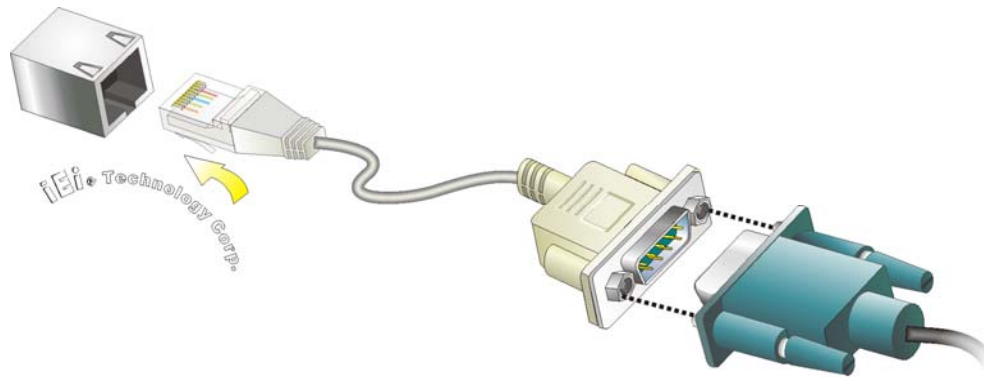

Figure 4-18: RJ-45 Serial Port Connector
Step 2: **Connect the RJ-45 to COM port cable to the panel PC.** Insert the RJ-45 connector end of cable into the RJ-45 serial port. See **Figure 4-18**.
Step 3: **Connect the serial device.** Connect a serial device to the DB-9 connector end of the cable. See **Figure 4-18**.